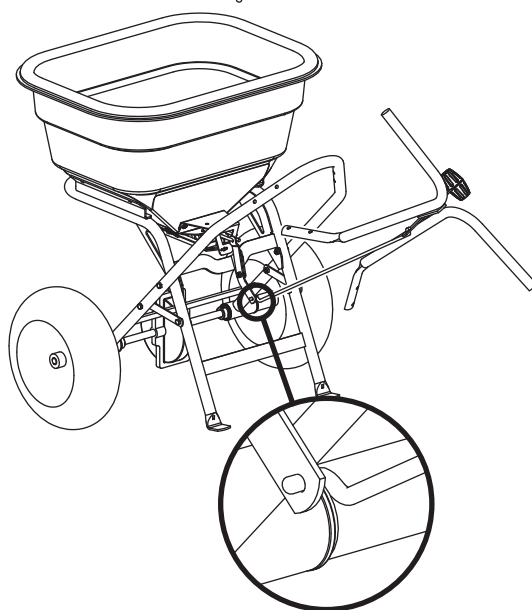

Figure 4
5. Turn handle/linkage assembly sideways and insert end of linkage into rate gate linkage, Figure 4.